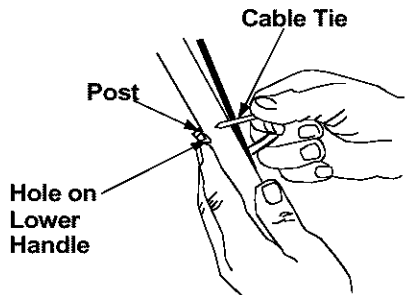

Figure 5
- Insert post on cable ties into holes provided on the lower handle. Pull the cable tie tight and trim the excess. See Figure 5 .